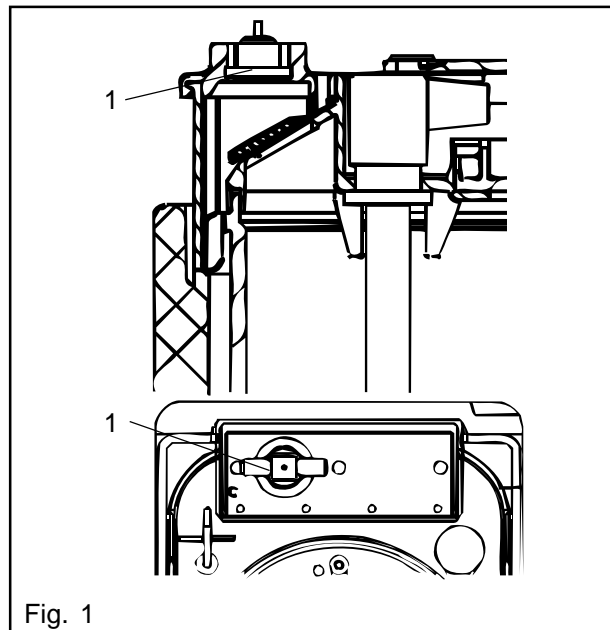

Fig. 1
- Pull the boil over sensor (1) out of the boiler (Fig. 1)